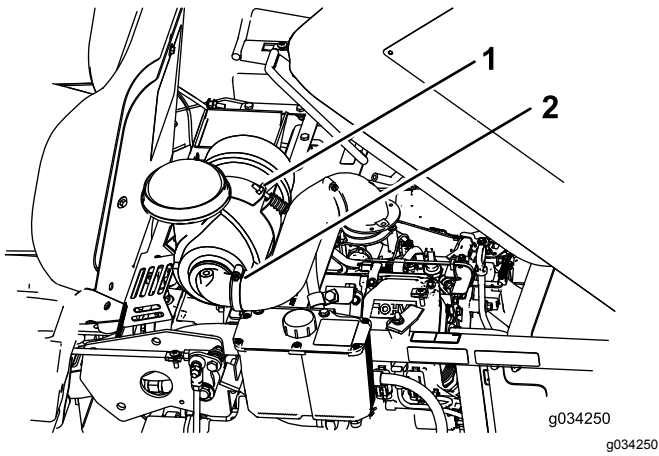

Figure 32
2. Loosen the bolt holding the air cleaner (Figure 32).
- Loosen the clamp holding the hose and remove the air cleaner (Figure 32).